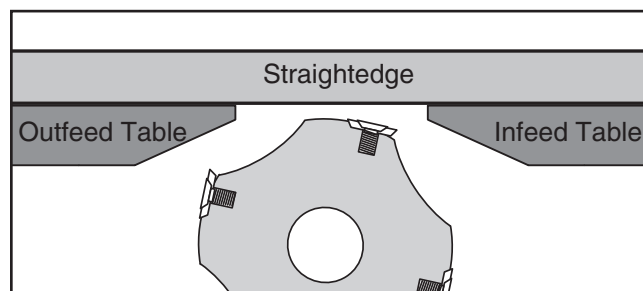

Figure 70. Infeed and outfeed tables set parallel.
2. Place the straightedge halfway across the infeed table and halfway over the outfeed table, and adjust the infeed table even with the outfeed table, as shown in **Figure 70**.